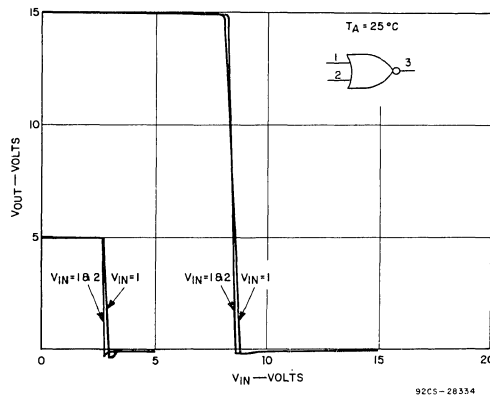

Fig. 5 — Voltage transfer characteristics of a buffered 2-input NOR gate (CD4001B).
–Buffered—The buffered 2-input NOR gate voltage-transfer characteristics, Fig. 5, are squared because of the gain of three CMOS stages from input to output. Fig. 5 shows that noise voltage inputs of ±1.5 V at V_{DD} = 5 V and ±4 V at V_{DD} = 15 V will have little discernible
–Unbuffered—Fig. 6 shows the rounded voltage-transfer characteristics of the 2-input unbuffered NOR gate. Also evident is the shift in the transfer curve for the different logic input states. Compare these curves to those of Fig. 5 and the effects of the non-buffered inputs as well as the gain differences are evident. The rounded characteristics require a noise-immunity specification of ±20% of V_{DD} at 5, 10 and 15 V as well as a reduced noise margin: 0.5 V at V_{DD} = 5 V and 1.0 V at V_{DD} = 15 V.
Noise Immunity—Table III shows the detailed input-voltage data-sheet specifications for buffered and unbuffered gates. From these test conditions the user-oriented noise-immunity and noise-margin data of Table II are derived. Also refer to Figs. 5 and 6 for the voltage-transfer characteristics that illustrate the reason for the different input-voltage-specification requirements for buffered and unbuffered devices.